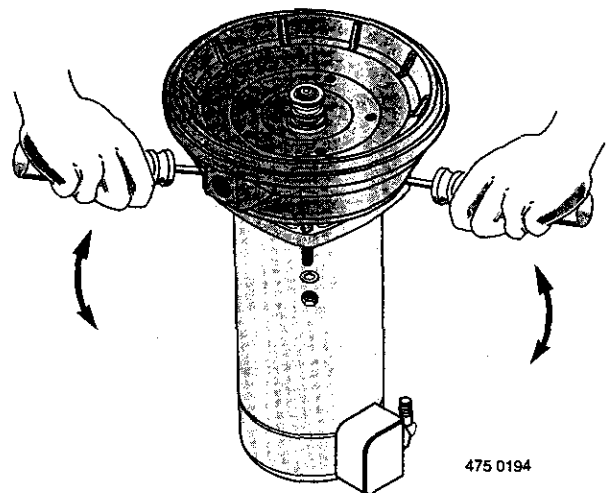

Figure 5
3. Remove pump back half from motor by unscrewing four (4) nuts. Pry back half off motor by inserting two (2) screwdrivers between the back pump half and the motor flange. This will force rotating portion of seal off shaft. See Figure 5.